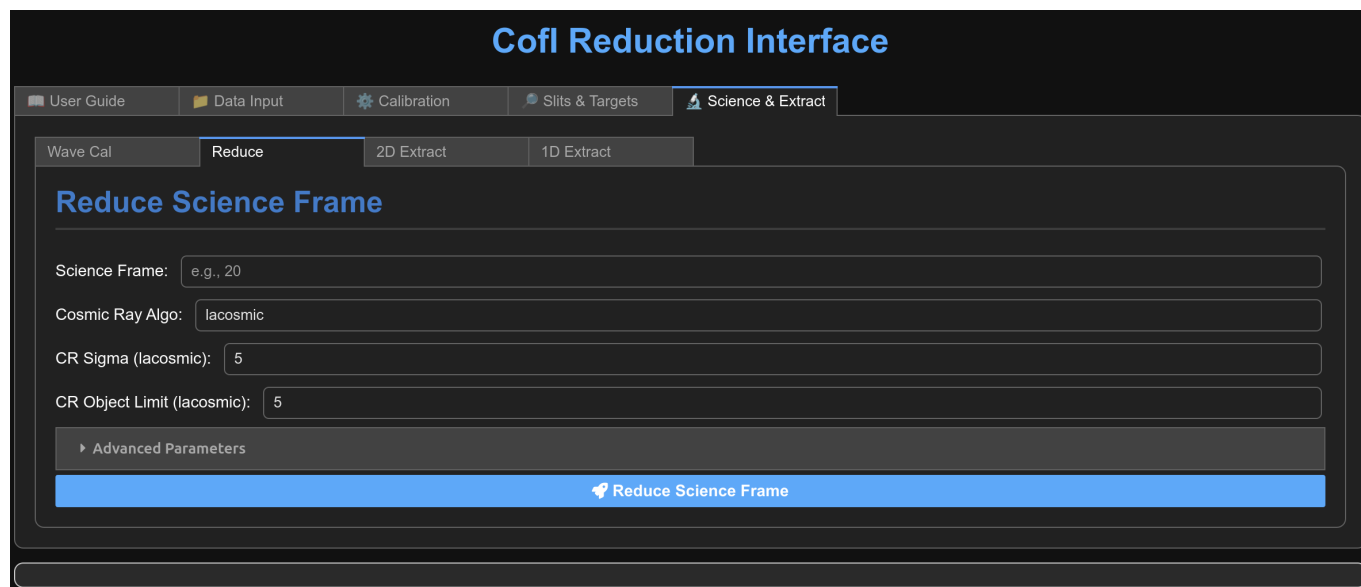

Figure 18: Sub-Tab; Science reduction
- **Purpose:** To apply all instrumental corrections to the raw science image. You can fine-tune cosmic ray rejection by adjusting the `crsig` and `objlim` parameters (see Figure 18). Always visually inspect the output image to verify the changes you've made.